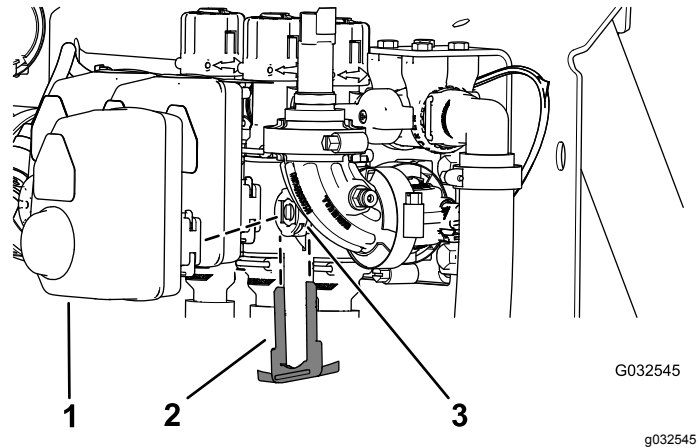

Figure 105
2. Remove the retainer that secures the actuator to the manifold valve for the section valve or agitation valve (Figure 105).